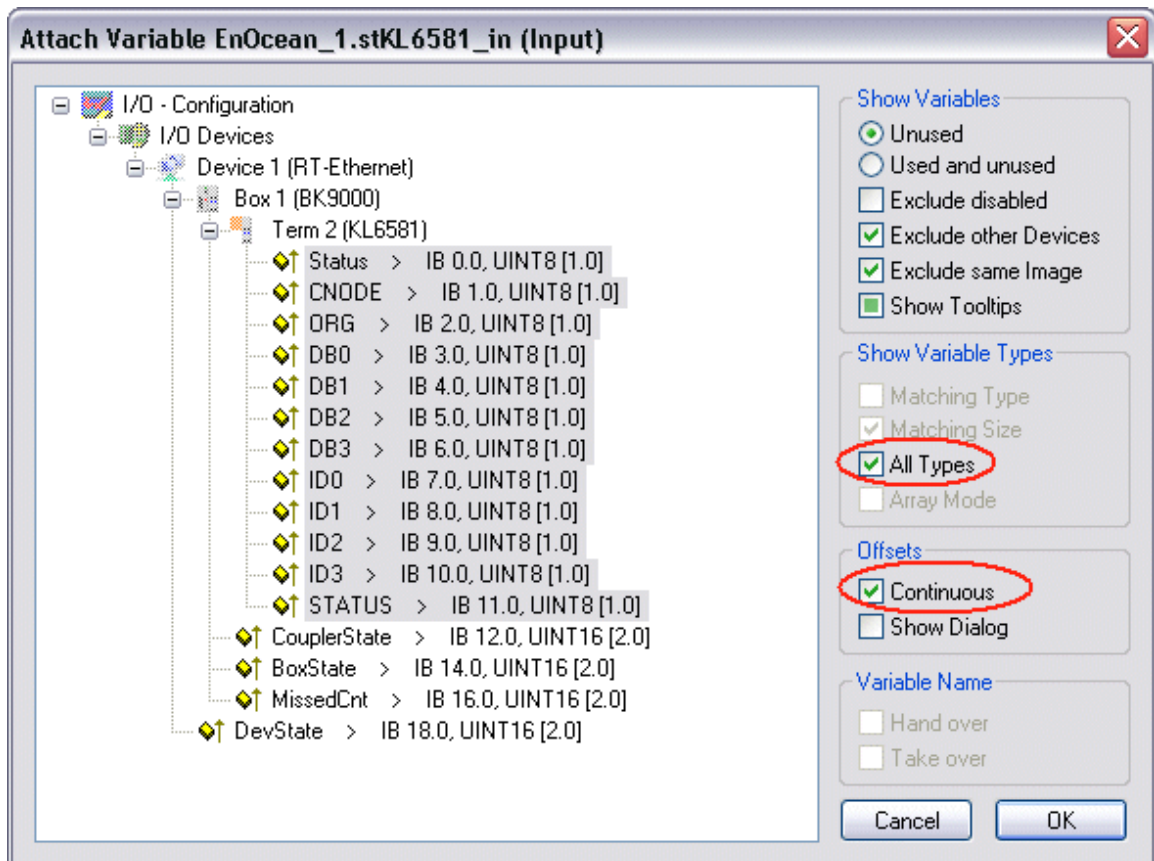

Figure 2
2. Select "All Types" and "Continuous" (see Figure 2).
5. Now release the <SHIFT> key again. All the terminal's data should now be highlighted (see Figure 2).